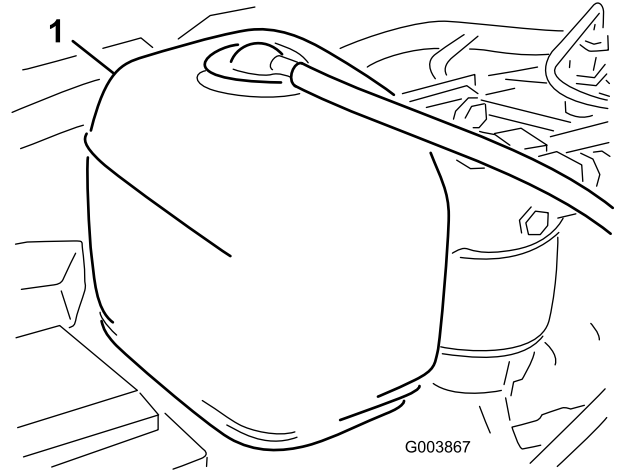

Figure 25
1. Check the level of coolant in the expansion tank (Figure 25).